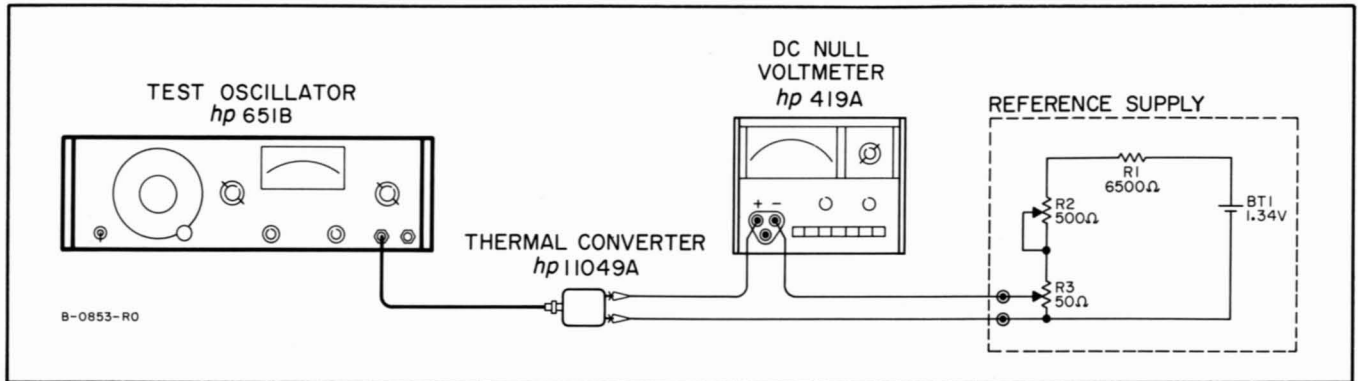

Figure 5-3. Monitor Flatness Check
- a. Connect nullmeter, thermal converter, and reference supply to 651Bas shown in Figure 5-3, setting 651B and reference supply outputs to minimum before connecting.